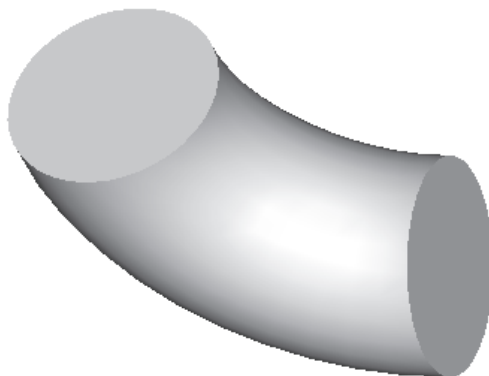

Figure 7-37 Sweep feature without datum planes
- The base feature is a sweep feature, see Figure 7-37. Select the sketching plane for the base feature, draw the sketch using the sketcher tools, and apply constraints and dimensions.
2. Choose the **Saved view list** button from the **View** toolbar. From the drop-down list choose the **Default** option. The model orients on the graphics screen as shown in Figure 7-37.